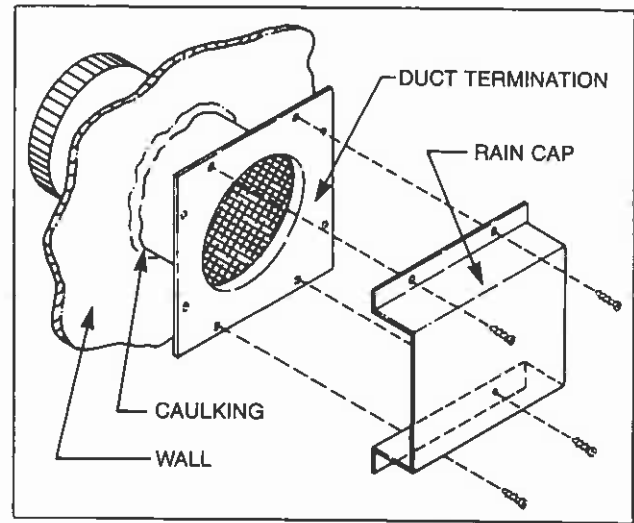

Fig. 3. Caulk and nail or screw rain cap in place.
2. Slide the duct over the collar and attach the duct to the collar using the plastic tie straps or three (3) screws (screws not provided). Continue attaching the ducting together using three (3) screws at each joint until you have installed sufficient duct to arrive at your duct termination location.
3. At the termination end, you should install the duct termination. This should be installed from the outside of the home and should be covered with the rain cap. Cut a hole in the desired location approximately 4½ inches in diameter, caulk around the hole, and slide the termination through the opening from outside the home. The termination may be held in place by using four (4) screws or nails in the side flanges. Align the rain cap over the termination and secure by using four (4) # 10 screws (provided). See Fig. 3.